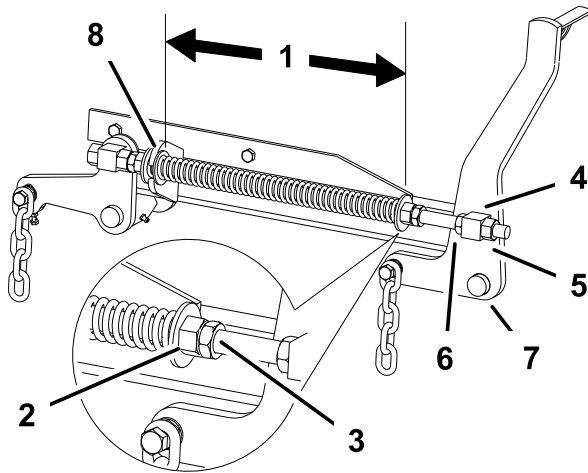

Figure 80
2. Check the distance between the two large washers, it needs to be 11-1/2 inches (29.2 cm) (Figure 80).
3. Adjust this distance, by loosening the spring jam nut and turning the nut in front of each spring (Figure 80). Turning the nut clockwise will shorten the spring; counter-clockwise will lengthen the spring.
4. Lock the nut into position by tightening the spring jam nut (Figure 80).